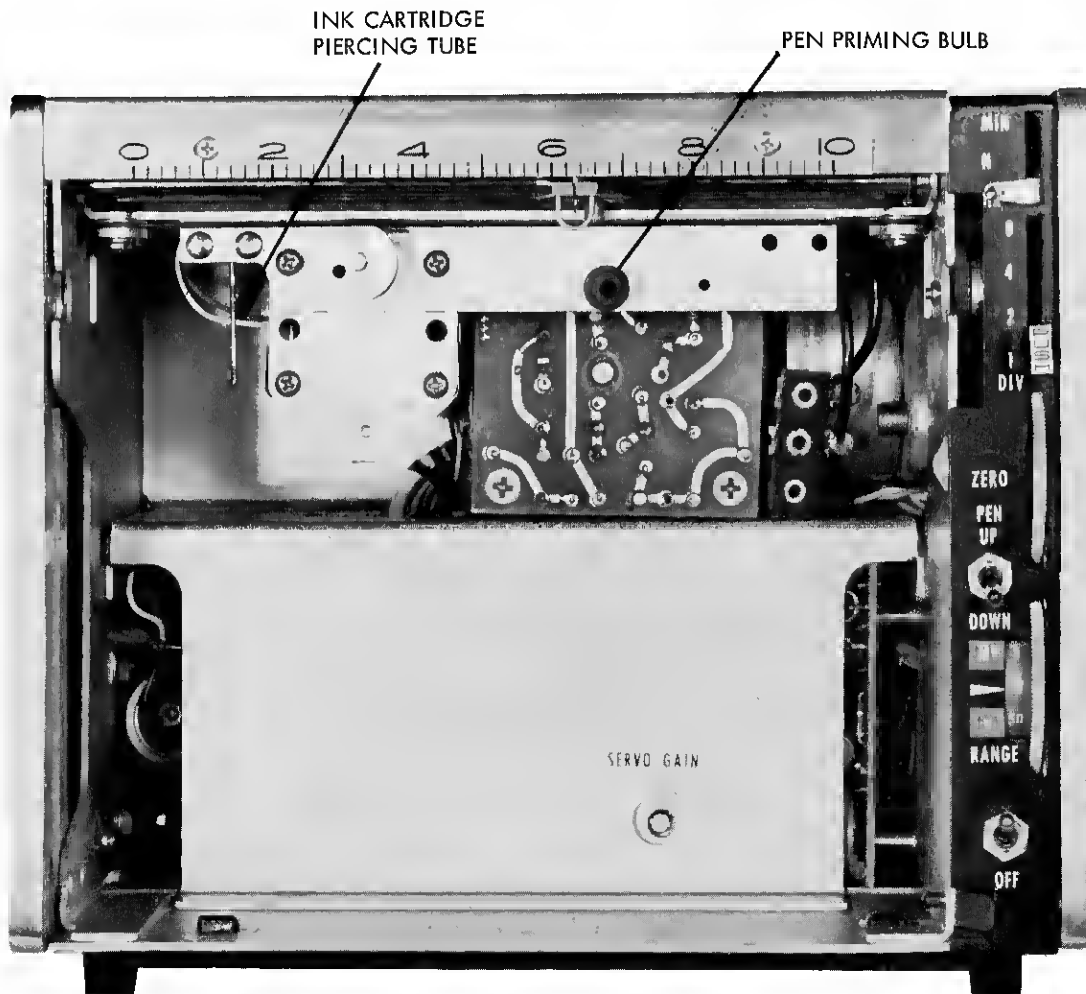

FIGURE 3-3. MODEL 680 WITH CHART MAGAZINE REMOVED
b. Install ink cartridge. Depress the lever which is adjacent to the power switch at the bottom of the control panel, raise the chart magazine to a horizontal position and slide it from the recorder. Force the cartridge over the piercing tube of the corresponding pen and screw all the way on. The piercing tubes (up to two) are located in the same plane as the pen. See figure 3-3. Pen primers are located behind the chart magazine and just below the pen. Depressing the primer will force ink from the cartridge to the pen tip.